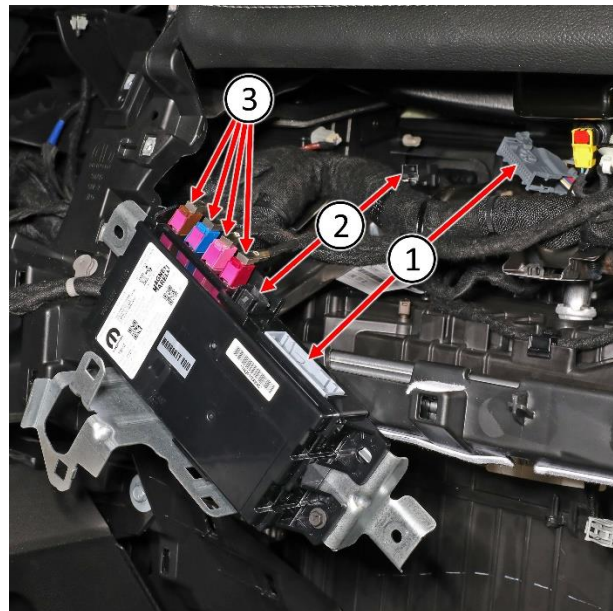

Figure 18 – Telematics Module
26. Lower the telematics module to disconnect the wire harness connectors (1, 2, 3). Then remove the telematics module, and if equipped, Long Term Evolution 2 (LTE2) antenna, Global Position System (GPS) antenna and the telematics module bracket through the glove box opening (Figure 18).
34. Install the telematics module and if equipped, the LTE2 antenna, GPS antenna and bracket through the IP glove box opening (Figure 18).
35. Connect all the wire harness connectors to the telematics module (Figure 18).